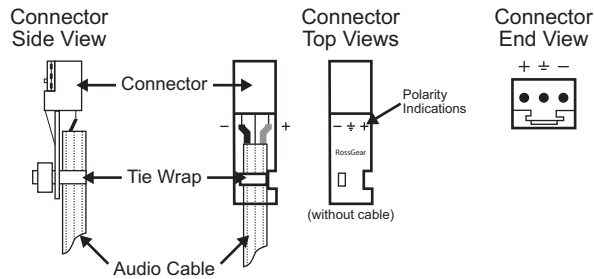

Figure 4.8 Connector Wiring for the Breakout PCB 3-pin Connectors
1. Insert a wire to the designated polarity slot on the connector of the rear panel. (Figure 4.8)